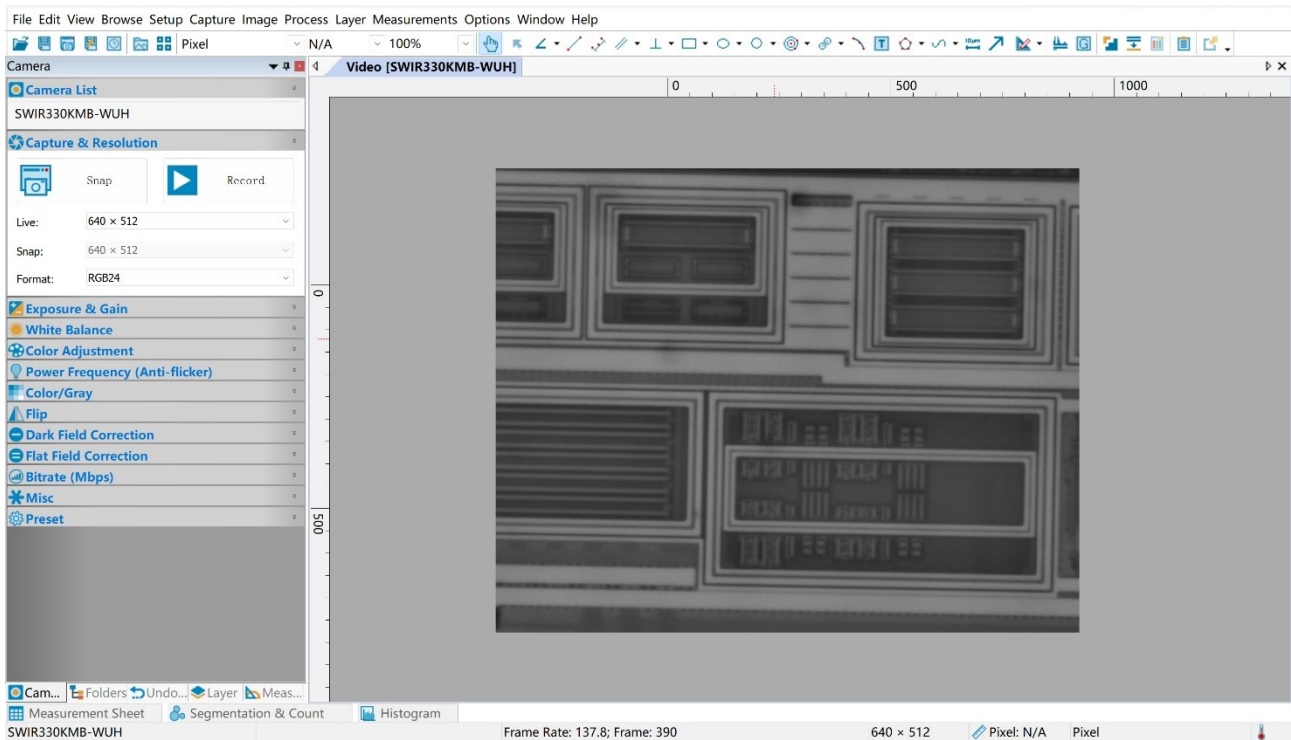

Figure 7 EHDView and EHD330KMB-WUH Camera in USB Mode
- Install EHDView/EHD Lite on your PC or install EHDView App on the mobile device; Run the software EHDView/EHD Lite, clicking the camera name in the camera list n to start the live video as shown in Figure 7.